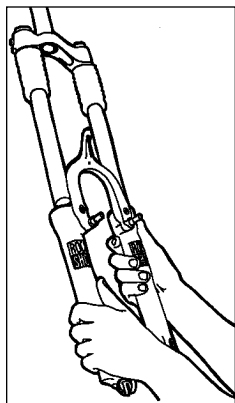

Fig. 6
- 4. Slide off one-piece lower tube assembly. (see Fig. 6)